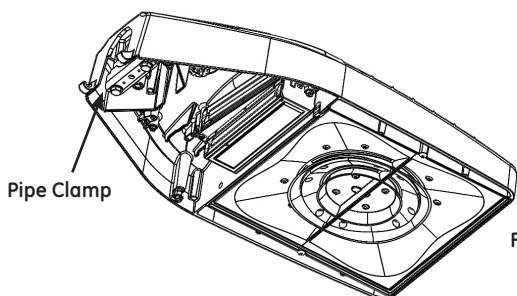

FIGURE 1
- The pipe clamp (See Figure 1.) accommodates 1 1/4 inch (1.660 OD) through 2 inch (2.375) O.D. pipe. Adjust the clamp bolts so the opening is slightly larger than pipe.